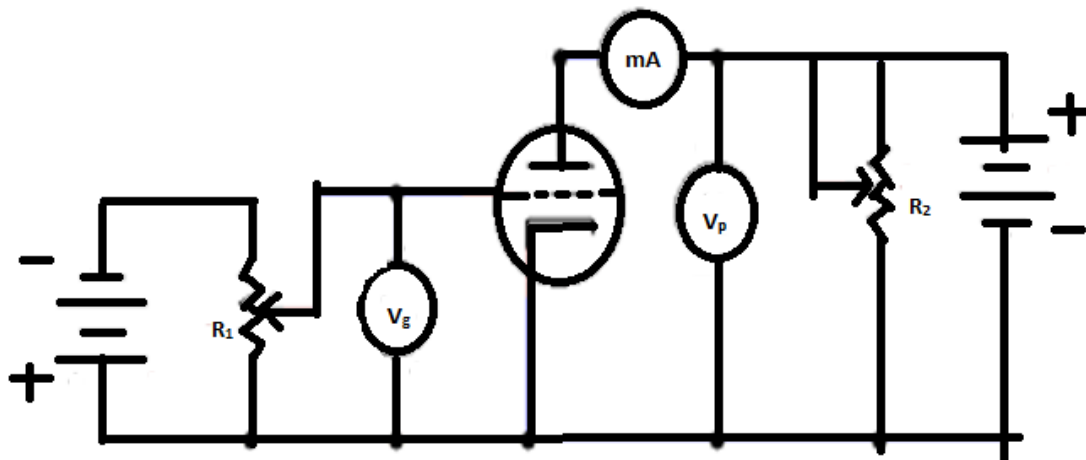

Figure 2
The apparatus in the experiment is a simple electric circuit as shown in figure 2. The triode valve have three electrode 6V battery is connected to the electric bulb with rheostat. For the measurement of current and voltage the DC Voltmeter (0-10V) & DC ammeter (0-1 A) are connected.
6. Make connection as shown in figure 2.